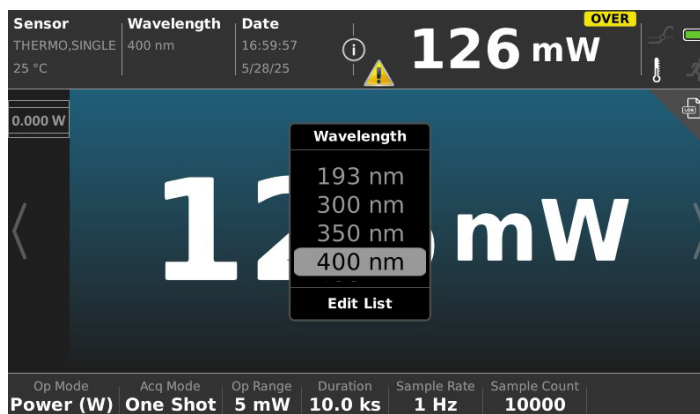

Figure 6-9. Wavelength Selection and Edit List Option
8. Press the WAVELENGTH function button. Select the laser wavelength from the drop-down menu. Refer to Figure 6-9.